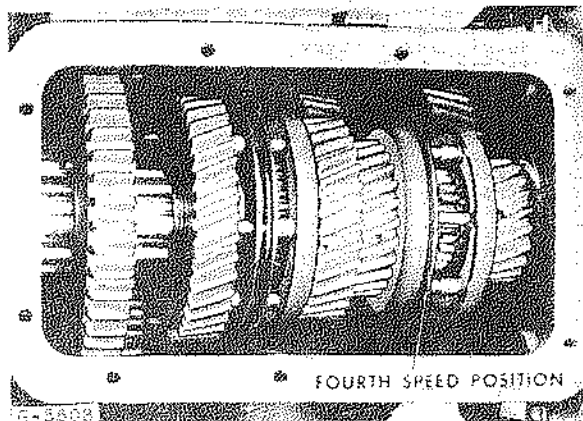

Fig. 8 - Synchronizer Positions With Transmission in Fourth Gear
Torque delivery in the fourth speed forward is similar to the second and third speed except that the rear synchronizer is in a neutral position while the sliding clutch (37) of the front (4th and 5th speed) synchronizer is moved toward the rear of the mainshaft (Fig. 8). The inner stop ring (37, Fig. 1) moved against the outer stop ring (36) which is constantly meshed with the fourth speed gear (35). The pressure of the inner stop ring against the outer stop ring corrects the speed of the fourth speed gear with the speed of the sliding clutch. The sliding clutch which is constantly meshed with the mainshaft through the clutch gear (38) is then engaged with the fourth speed gear by the shift fork (14). The torque is then delivered through the synchronizer and on out the mainshaft.